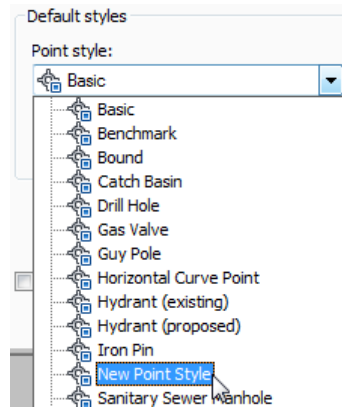

Figure 2-63 Selecting the **New Point Style** option from the **Point style** drop-down list
- In the **Information** tab, select the **New Point Style** option from the **Point style** drop-down list in the **Default styles** area, as shown in Figure 2-63.